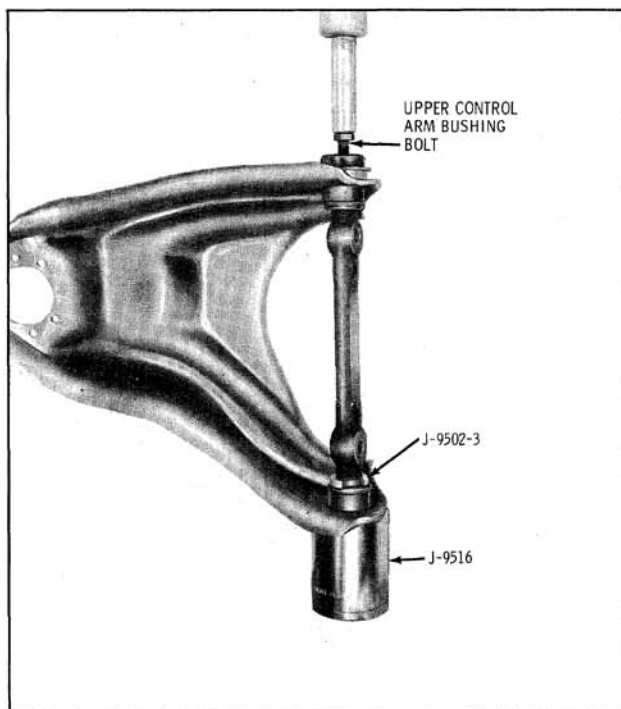

Fig. 9-133 Bushing Removal
3. Remove arm from press, remove bushing bolt, partially thread bolt into opposite end of shaft and set up arm in press as shown in Fig. 9-133. The bushing can now be removed by pressing it into the Back-Up Tool J-9516.